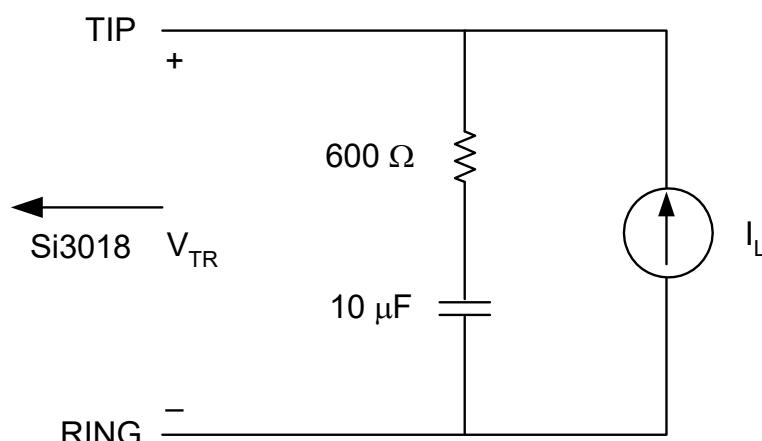

Figure 1. Test Circuit for Loop Characteristics
(V_D = 3.0 to 3.6 V, T_A = 0 to 70 °C, see Figure 1)
2. Measured at TIP and RING with 600 Ω termination at 1 kHz, as shown in Figure 1.